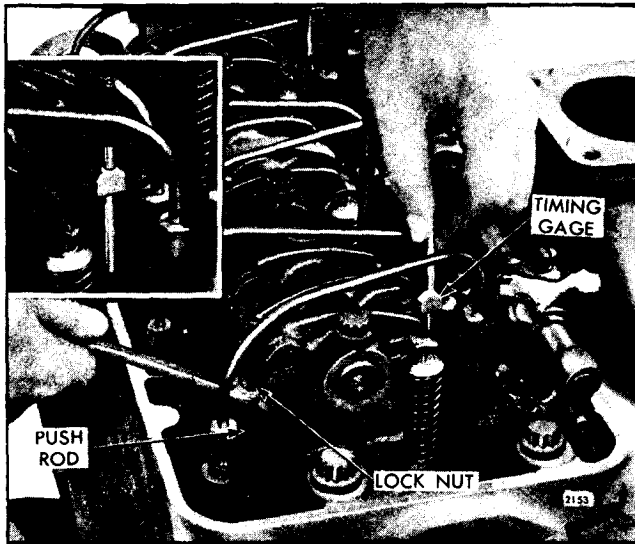

Fig. 5 - Timing Fuel Injector
3. Refer to Tables 1 through 13 and place the small end of the injector timing gage (see chart) in the hole provided in the top of the injector body, with the flat of the gage toward the injector follower (Fig. 5).